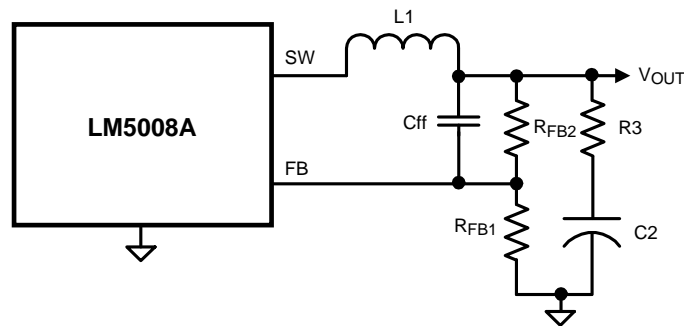

Figure 15. Reduced Ripple Configuration
a) Reduced ripple configuration: In Figure 15, Cff is added across R_{FB2} to AC-couple the ripple at V_{OUT} directly to the FB pin. This allows the ripple at V_{OUT} to be reduced to a minimum of 25 mVp-p by reducing R_3 , since the ripple at V_{OUT} is not attenuated by the feedback resistors. The minimum value for Cff is determined from: